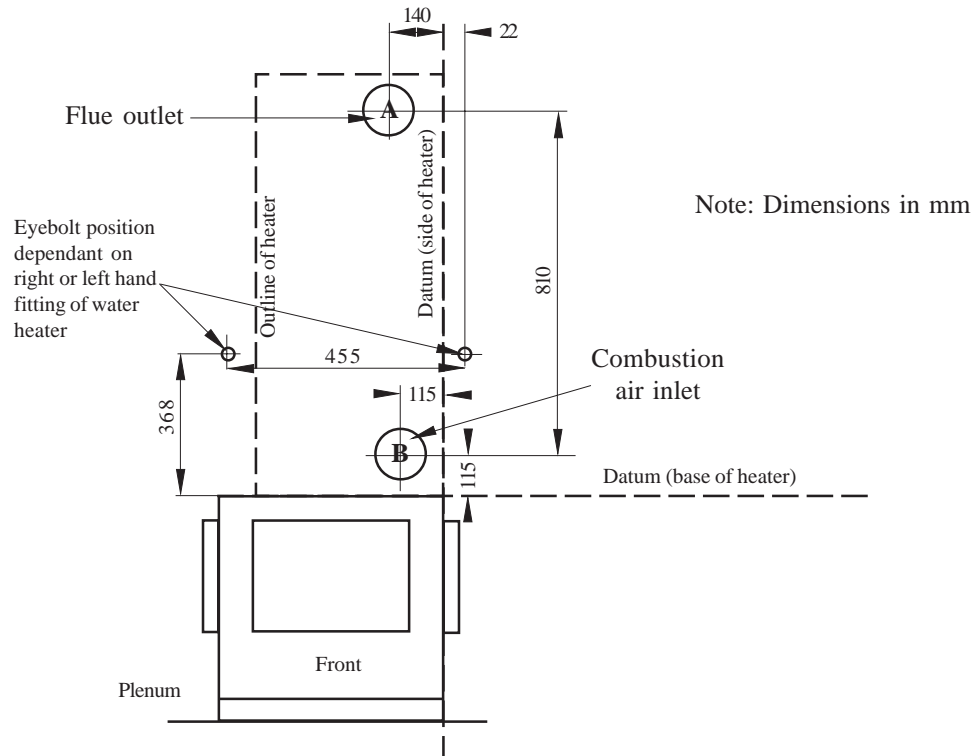

Fig. 2
- 4.3.2 Referring to Fig. 2, note the position of the two datum points.
- 4.3.4 Referring to Fig. 2, mark and cut apertures A and B in the SE-Duct and clear all debris (if replacing a Sugg type 22/WH 'Halcyon', only aperture A will be required since aperture B corresponds with the existing Combustion Air Inlet).
- 4.3.6 Referring to Fig. 2, drill and fit the eyebolt masonry plug, having first noted the handing of the water heater (eyebolt to the left of the air heater for HI-SPEC ELJAN/SER, and eyebolt to the right of the air heater for HI-SPEC ELJAN/SEL).